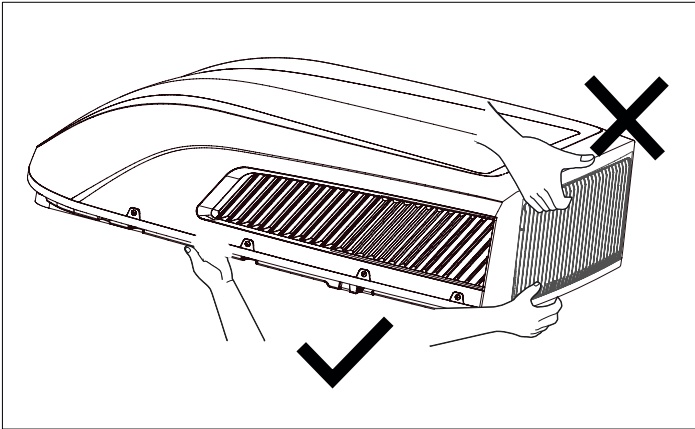

Figure 4-1
1) When you take the external unit out of the packaging, do not lift it out by the air outlet grille on the back of the outer casing (see Figure 4-1).